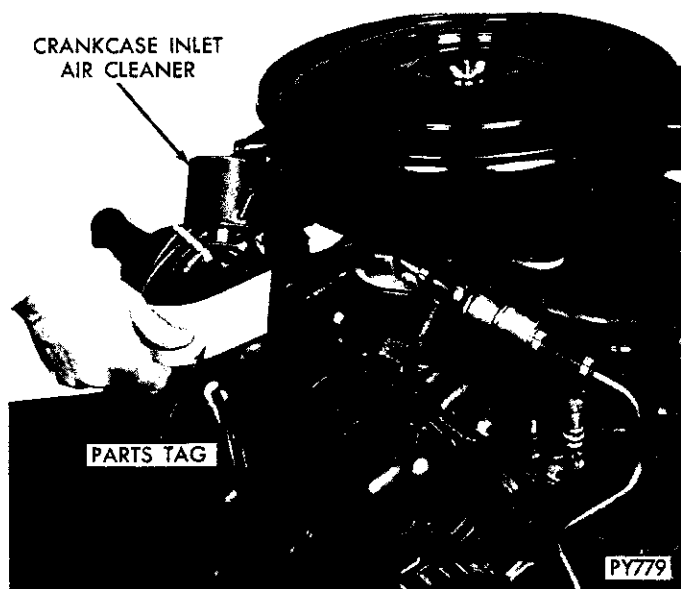

Fig. 28—Checking Vacuum at Crankcase Inlet Air Cleaner Opening
2. Reinstall the ventilator valve, then remove the crankcase inlet air cleaner. Loosely hold a piece of stiff paper, such as parts tag, over the opening in the rocker cover (Fig. 28).